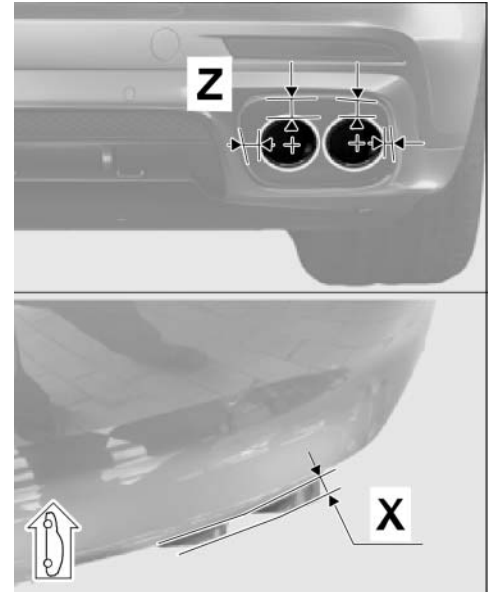

Figure 28
- 3.6.2 Check that the gap = “dimension Z” between the new sports tailpipes and exhaust system cover (rear apron – left and right side of vehicle ⇒ *Figure 28-Z-*) is symmetrically constant.
- 3.6.3 Check that the sports tailpipes project equally = “dimension X” with respect to the rear apron (left and right side of vehicle ⇒ *Figure 28-X-*).